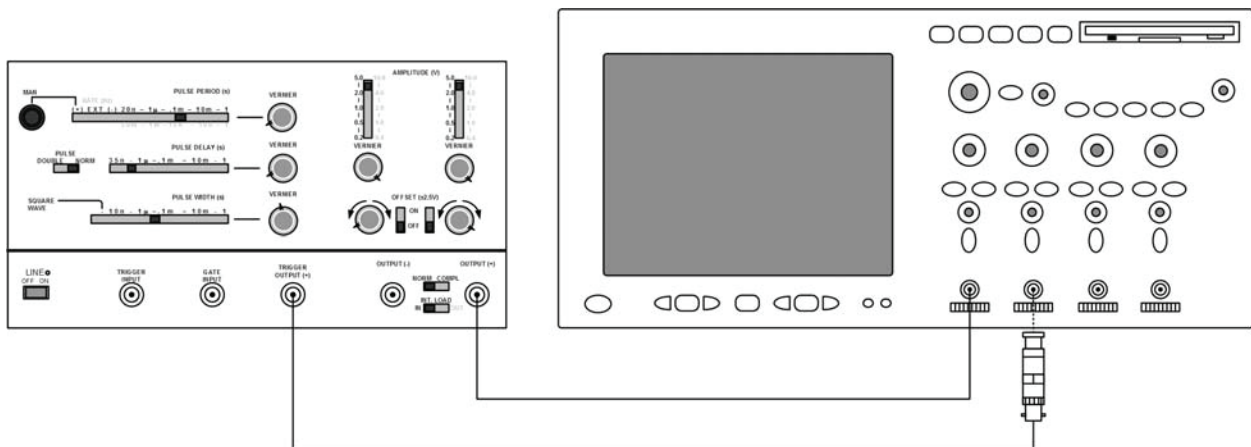

Figure 2. Pulse delay - equipment setup.
(1) Connect equipment as shown in figure 2 and set oscilloscope to trigger off channel 2.
- (1) Connect equipment as shown on figure 2.
- (2) Position controls as listed in (a) through (c) below: